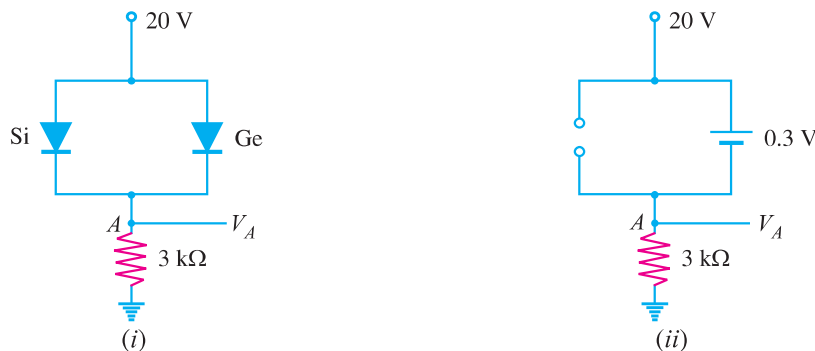

Fig. 6.13
**Example 6.6.** Find the voltage  $V_A$  in the circuit shown in Fig. 6.13 (i). Use simplified model.
**Solution.** It appears that when the applied voltage is switched on, both the diodes will turn “on”. But that is not so. When voltage is applied, germanium diode ( $V_0 = 0.3 \text{ V}$ ) will turn on first and a level of  $0.3 \text{ V}$  is maintained across the parallel circuit. The silicon diode never gets the opportunity to have  $0.7 \text{ V}$  across it and, therefore, remains in open-circuit state as shown in Fig. 6.13 (ii).